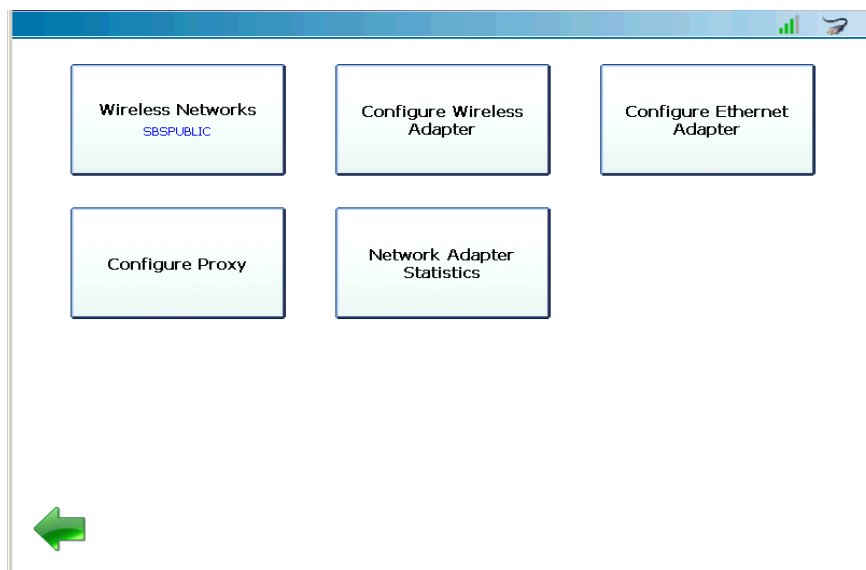

Figure 5.25 *Manage Networks Menu*
- 3 Select **Configure Ethernet Adapter** from the Manage Networks menu (Figure 5.25).
- 1 Select **Configure Proxy** from the Manage Networks menu (Figure 5.25).